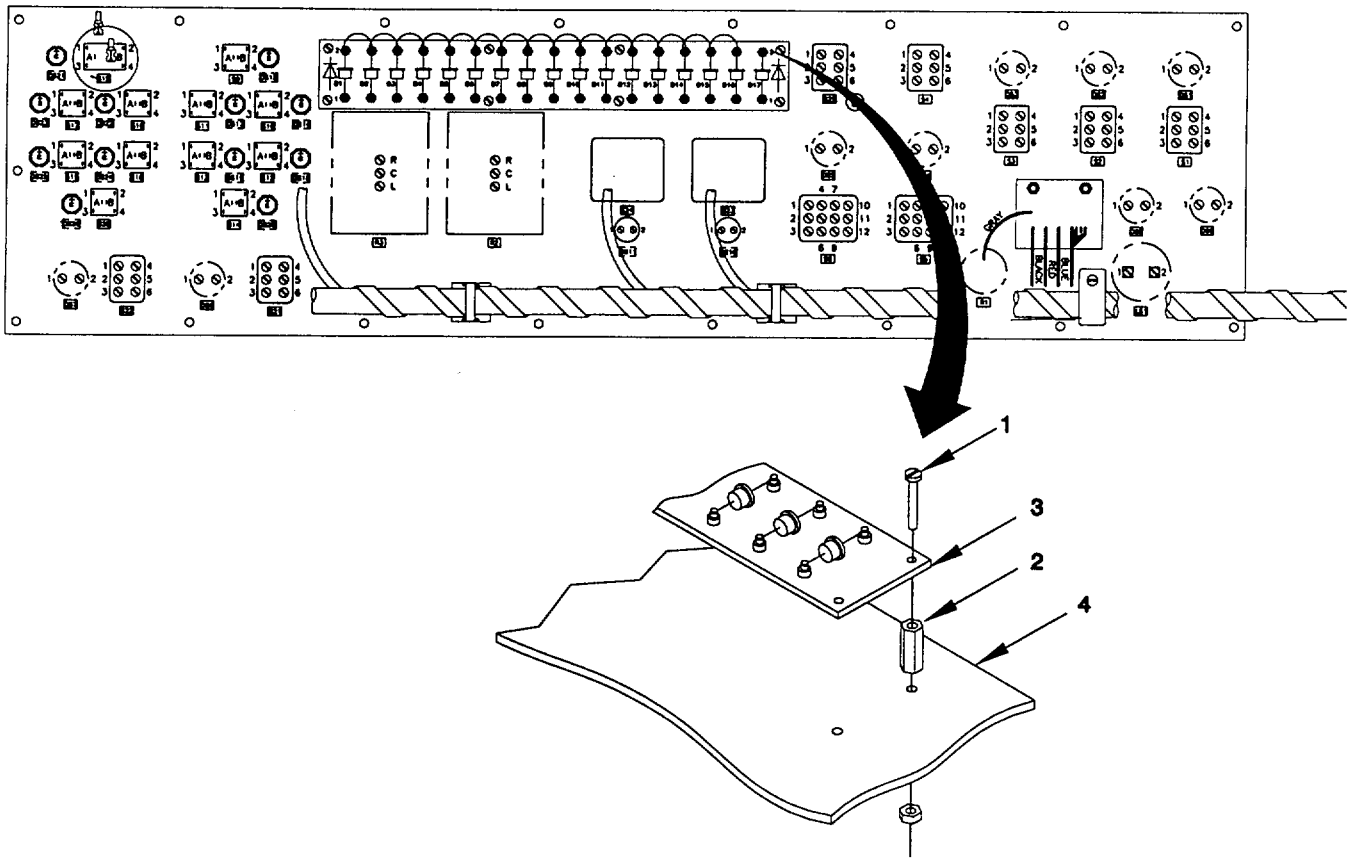

Figure 3-14. Diode Board Assembly, Lower Control Panel, Remove/Install.
WARNING**When performing maintenance, the electrical system should be disconnected and tagged OUT OF SERVICE to prevent inadvertent operation. Failure to comply can result in serious injury to personnel.**a. *Remove.* (figure 3-14)
- (1) Tag and disconnect electrical wiring to diode board assembly (3). Refer to Appendix G.
- (2) Remove eight pan head screws (1) securing diode board assembly (3) to lower control panel (4). Remove diode board assembly (3) and eight standoffs (2).
- (3) Send diode board to next higher level maintenance for repair.
b. *Install.* (figure 3-14)
- (1) Apply retaining compound to pan head screws (1).
- (2) Position eight standoffs (2) and new diode board assembly (3) on back side of lower control panel (4). Secure diode board assembly (3) with eight pan head screws (1).
- (3) Reconnect electrical wiring, as tagged, to diode board assembly (3). Refer to Appendix G. Use tie wraps and mounting bases to secure any loose wires.
- (6) Ensure alternator connected. Connect black wire from regulator to ground terminal on back of alternator.
- (7) Connect ring eyelet on blue wire to top of alternator stud marked FLD (Field wire).
- (8) Connect ring eyelet on orange wire to third stud on back of brush assembly (refer to figure 3-14).
- (9) Connect red wire labeled (Battery Sense) to positive post on chassis battery.